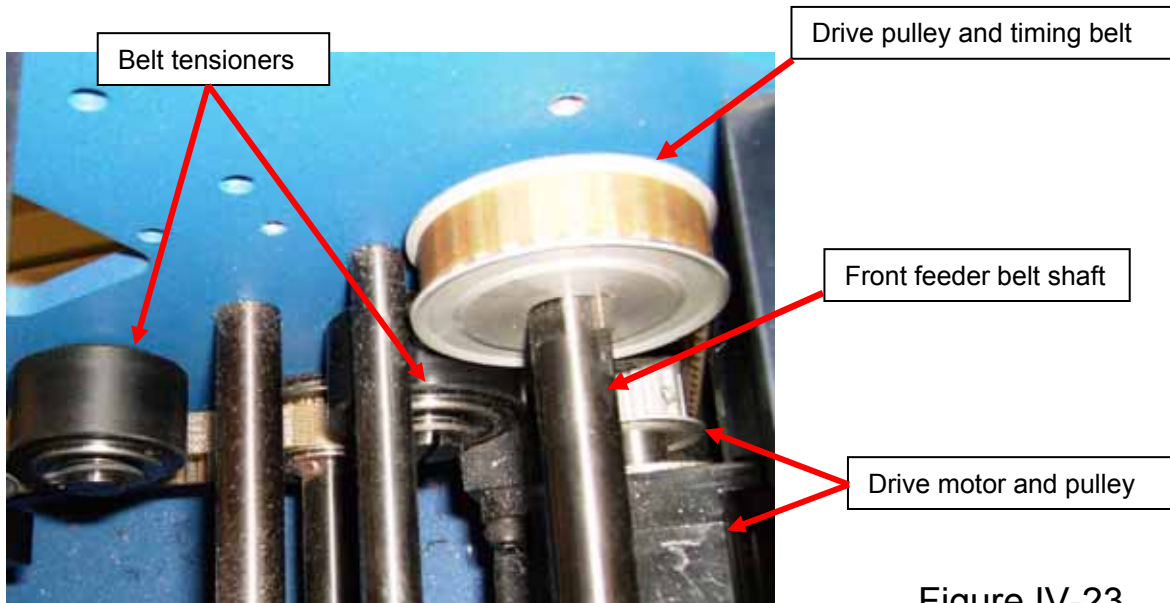

Figure IV-23
12. Remove the timing belt from the drive pulley on the front feeder belt shaft-bearings in side plate may need to be carefully pried from plate. See figure IV-23.